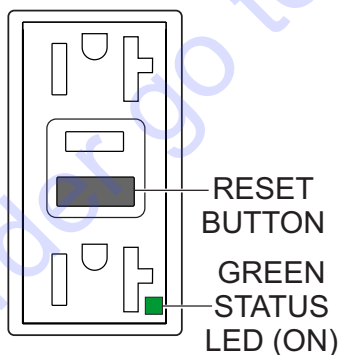

Figure 72. GFCI Receptacle (ON/Restore)
5. Press the **RESET button** (Figure 72) to restore power to the GFCI receptacle and verify that the status LED is **ON (GREEN)**.